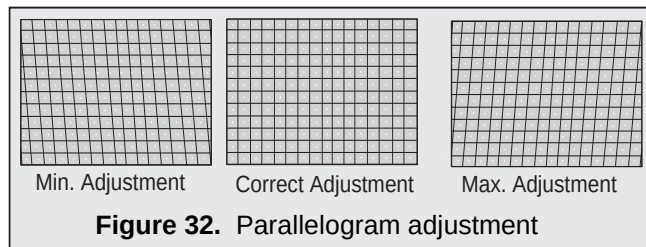

Figure 32. Parallelogram adjustment
1. With a screwdriver adjust R524 (D-Board) so that lines become straight (see Fig. 32).